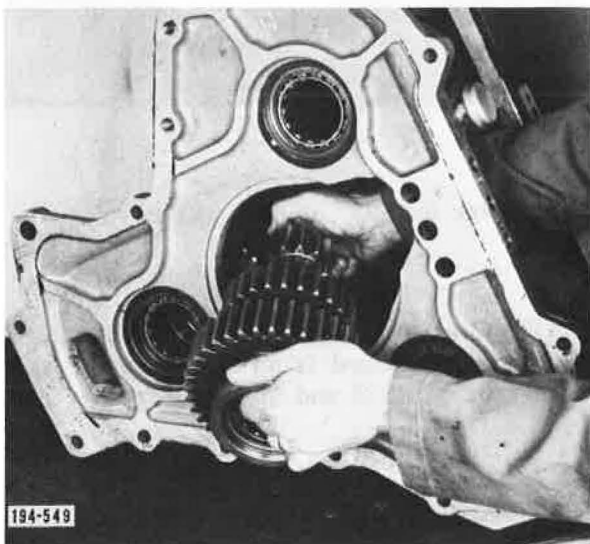

Figure 5-288. Removing Countershaft
20. Remove three rear countershaft assemblies from case. See Figure 5-288.